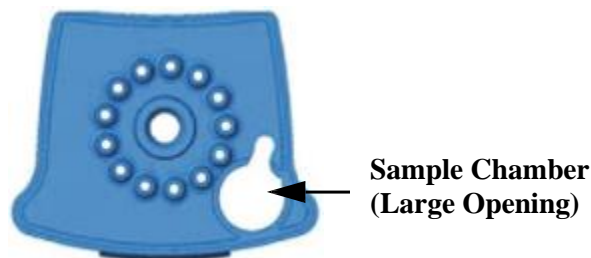

Figure 28. Xpert Xpress SARS-CoV-2/Flu/RSV Cartridge (Top View)
16. To transfer the external control to the cartridge, squeeze the top bulb of the pipette **completely** again until it is fully flat to empty the contents of the pipette into the large opening (Sample Chamber) of the cartridge shown in Figure 28. Dispose of the used pipette.